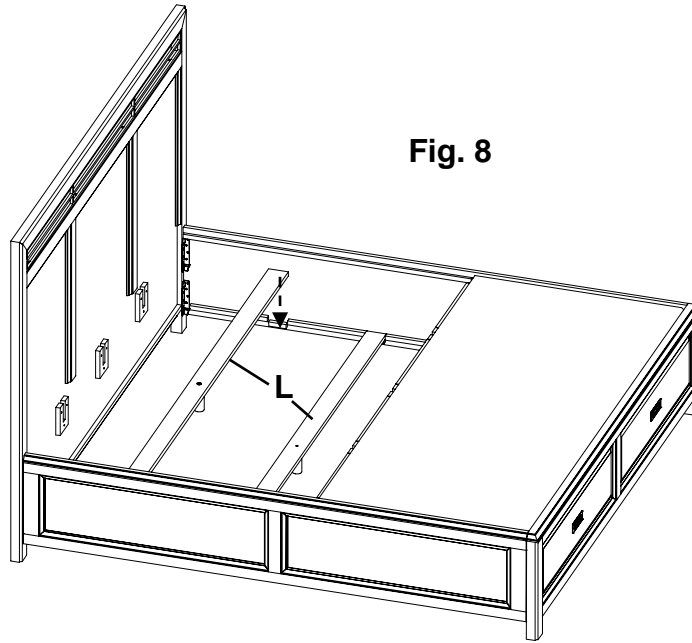

Fig. 8
8. Position the Bottom Slats (L) on the bottom notched edges of the rails. Adjust the glides on the bottoms of the Small Assembled Foot (R) so they bear weight. See Figure 8.